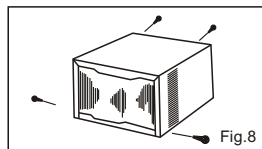

Fig.8
- 2) Remove the screws fix the chassis-fixing board and cabinet. some Models have two more screws on the back of the cabinet. (Fig.8)
- 7) Reinstall the retaining bracket, front panel and mounting screws.(Fig.8,7,13)